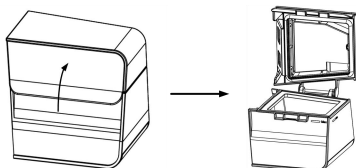

Fig. 18-2
(2) Open the cap of the Water Chamber as shown in Fig. 18-2 and discard any remaining water.